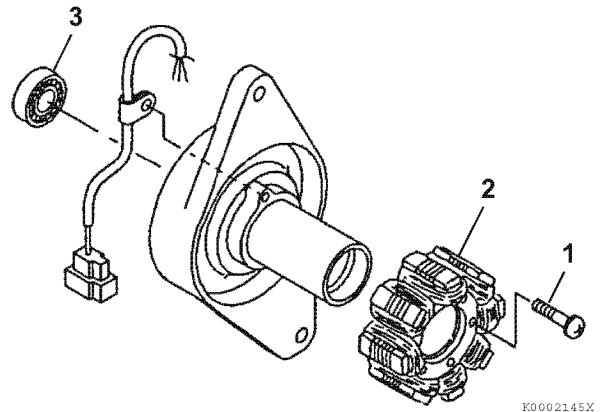

Figure 12-26
4. Remove the screws (1, **Figure 12-26**) and the stator assembly (2, **Figure 12-26**).
5. Remove the rear bearing (3, **Figure 12-26**).